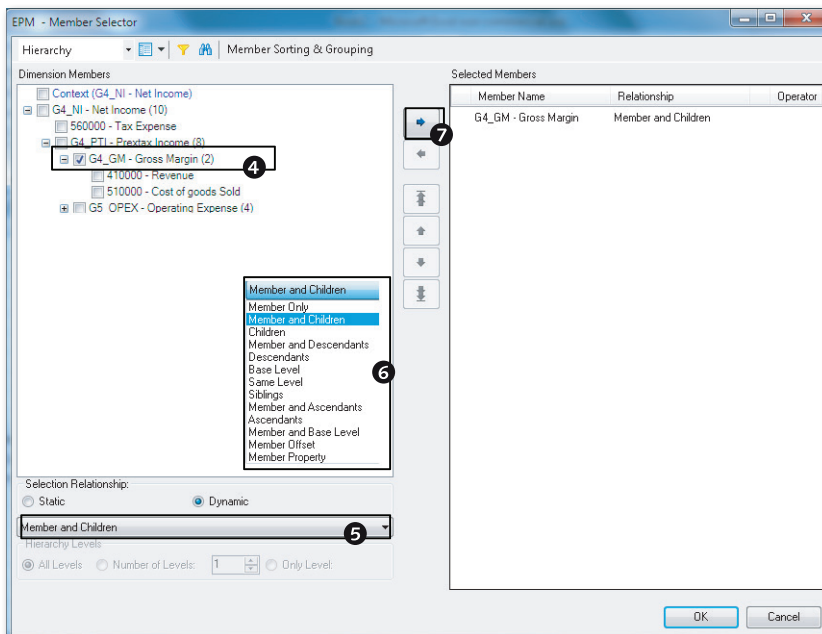

Figure 5.11 EPM Member Selections for Report—Part C
4. Select a dimension member you want to include in the report (Figure 5.11, ④). Select **STATIC** or **DYNAMIC** under **SELECTION RELATIONSHIPS**, and select the relationship you want to use for member selections. The **STATIC** option sets the selection to the members selected based on the relationship at the time of the definition of the report, whereas the **DYNAMIC** option selects the members dynamically based on the relationship at the time of the execution of the report. If hierarchy data is to be displayed, set the levels to include under the **HIERARCHY LEVELS** section.
5. Select the relationship for the data you want to display in the report by clicking the dropdown box (Figure 5.11, ⑤). The dropdown box lists the different member selections you can use for the report, including **MEMBER ONLY**, **MEMBER AND CHILDREN**, **MEMBER AND DESCENDANTS**, **DESCENDANTS**, **BASE LEVEL**, **SAME LEVEL**, and so on (Figure 5.11, ⑥). Click the arrow to select the member you checked in the left box (Figure 5.11, ⑦).